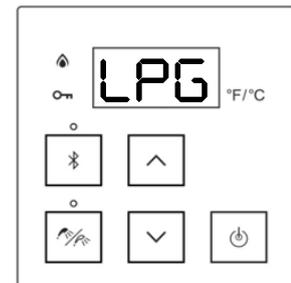

Figure 55:
- 3(B). **If using propane gas:** Press the up or down arrow button. The controller displays “LPG” (Liquid Propane Gas) (Figure 55).